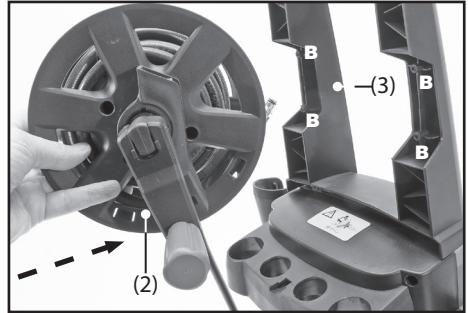
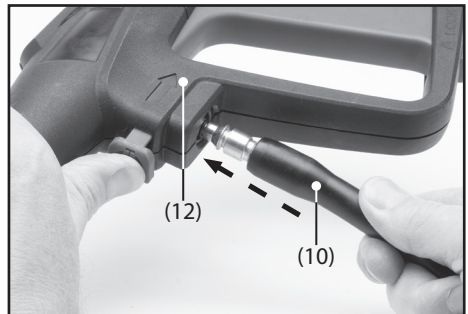

FIG.9
FIG.11
8.5 ATTACHING THE INTEGRATED HOSE REEL (03095 and 03096 only) – FIGS.9 – 10
- Position the hose reel section (15) within the cut out recessed area of the handle section (3).
- Locate the 4 supplied screws (22) with the mounting point holes (B) and screw in to secure the hose reel to the handle.
8.6 ATTACHING THE HIGH PRESSURE HOSE – FIGS.11 – 12
- To connect the high pressure hose (10) to the trigger assembly (12), push-fit the hose connector into the inlet on the assembly.
- Disconnection of the hose is achieved by pressing the hose release button (2).
- Insert the other end of the hose (10) into the high pressure outlet (13) and screw the shrouded end of the hose onto the threaded outer section of the pressure outlet, taking care not to cross the threads.